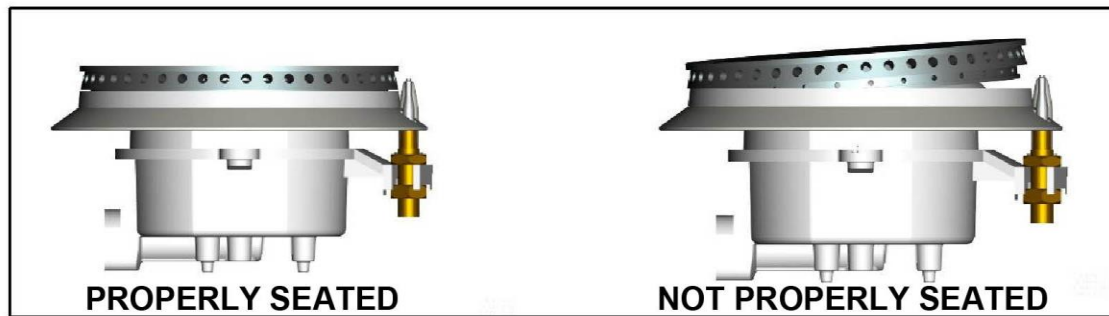

Figure 17
2. Place the burner caps on the burner heads. Make sure that the burner caps are properly seated on the burner head (see Figure 17).
- 4) Replace the burner bases, heads, caps and top grates. Make sure burner caps are properly seated on the burner head (see Figure 17).